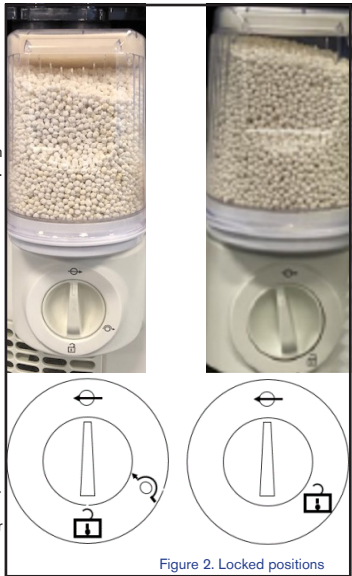

Figure 2. Locked positions
WARNING If you encounter resistance when attempting to fit the AbCan, do not use force as this may damage the equipment. Instead, check the alignment of the ports and the position of the AbCan as shown in Figure 2.
Step 3: Turn the locking switch so it is pointing in the upward locked position as shown in Figure 2. The AbCan is now raised into the locked position and is ready for the pre-use leakage and compliance test.